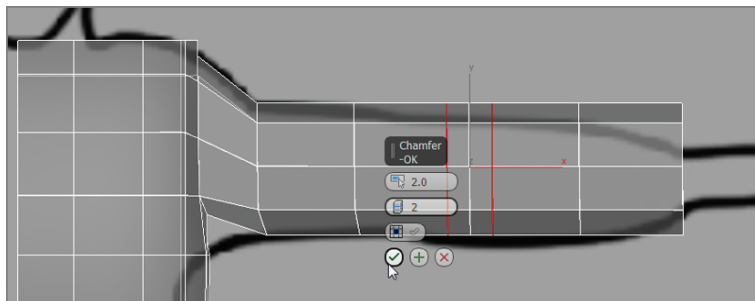

FIGURE 7.20 Chamfer edge at the middle of the arm
8. In the Graphite Modeling Tools tab > Edges > Chamfer, select Chamfer Settings to open the caddy. Enter an Edge Chamfer Amount value of 2 and a Connect Edge Segments value of 2 and click OK to close the dialog box, as shown in Figure 7.20.